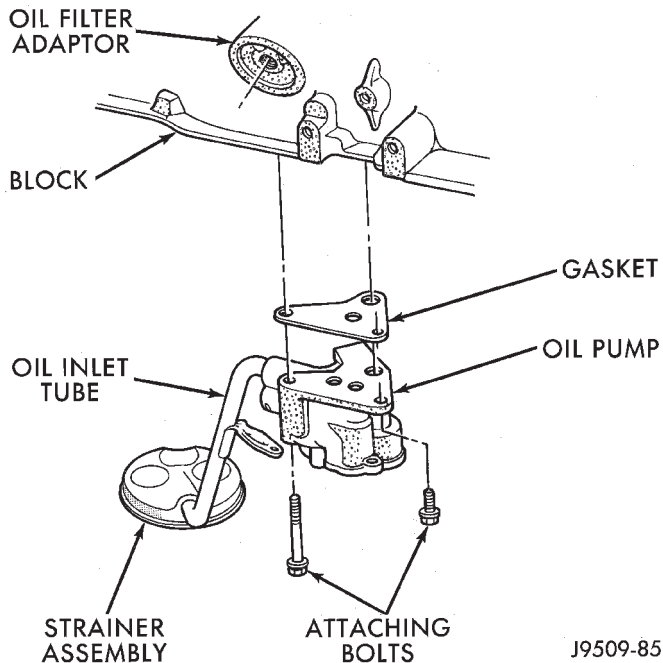

Fig. 59 Oil Pump Assembly
(1) Drain the engine oil.
(2) Remove the oil pan.
(3) Remove the pump-to-cylinder block attaching bolts. Remove the pump assembly with gasket (Fig. 59).